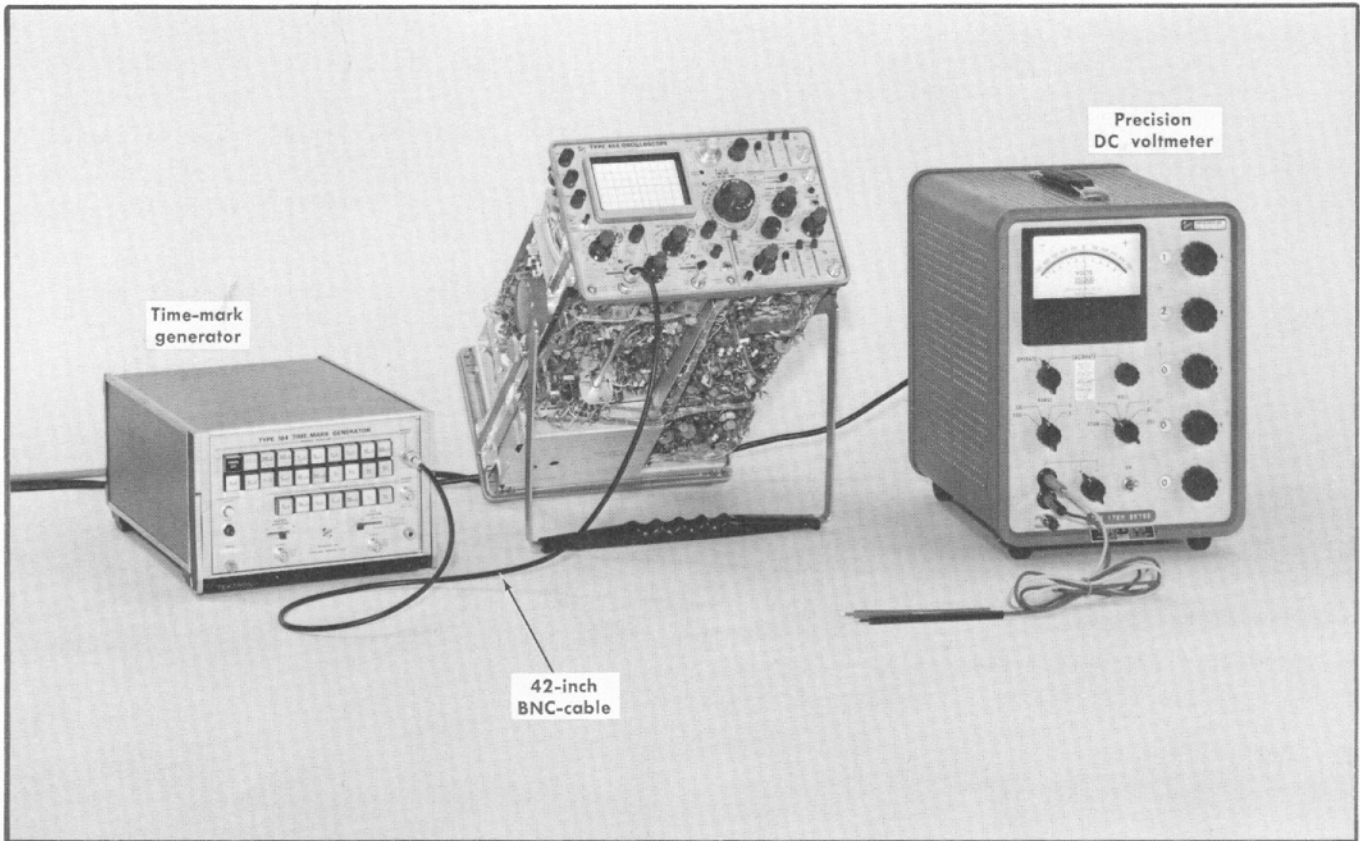

Fig. 6-11. Initial test equipment setup for steps 9 through 14.
9. Adjust Astigmatism ①
- a. Test equipment setup is shown in Fig. 6-11.